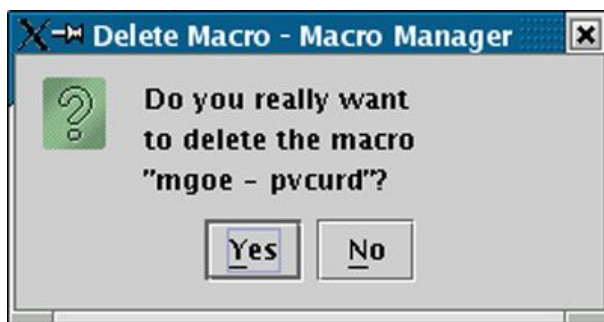

Figure 3.29: Deleting a Macro
2. Click the delete icon  in the tool bar (a confirmation dialog is shown, see Figure 3.29 ▶ 709).